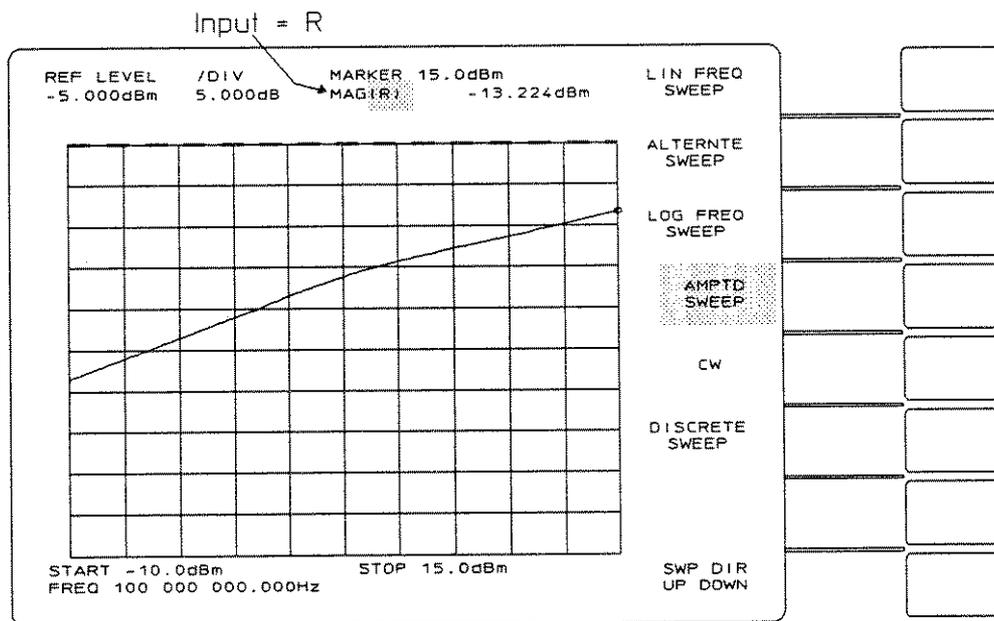

Figure 2-34. Amplitude Sweep of an Amplifier
- The plot shown in figure 2-34 is output level versus input level. To display gain compression (input versus gain), the trace must be normalized.